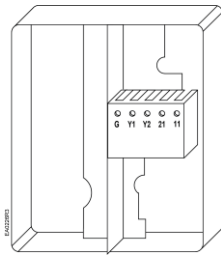
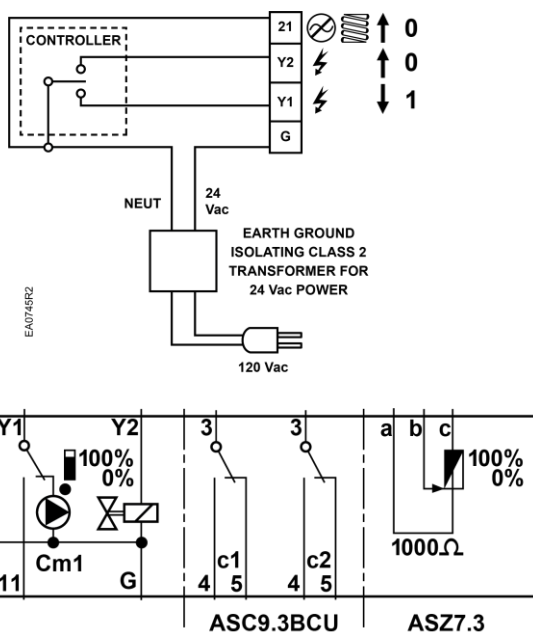

Figure 26.
Figure 27. Spring Return.
- Wiring for SKB/C82...U is shown in Figure 25, Figure 26, and Figure 27.